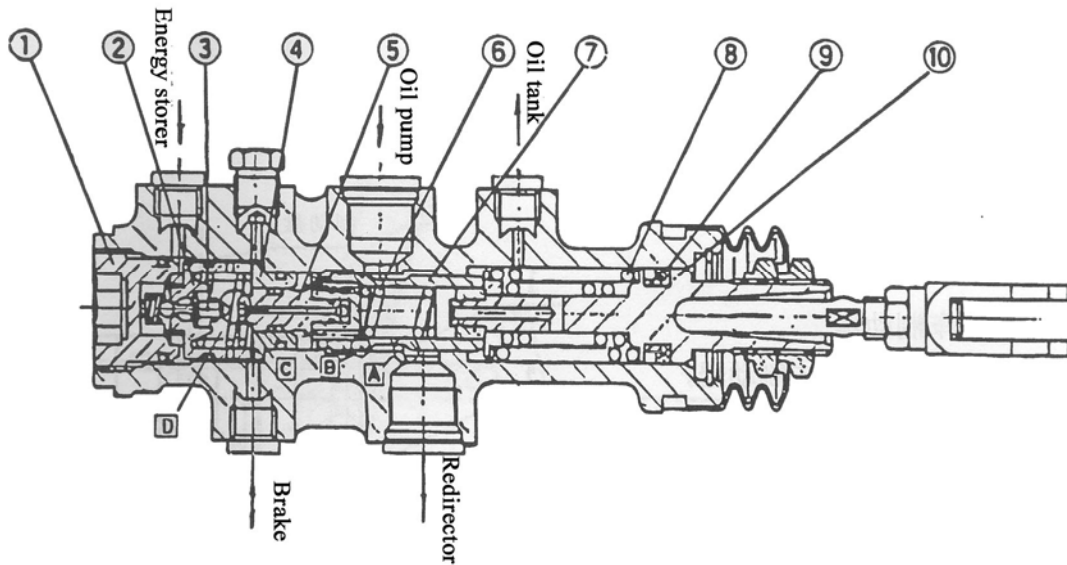

Fig 5.3 Brake Valve
5.2.2 Brake valve (see Fig 5.3)